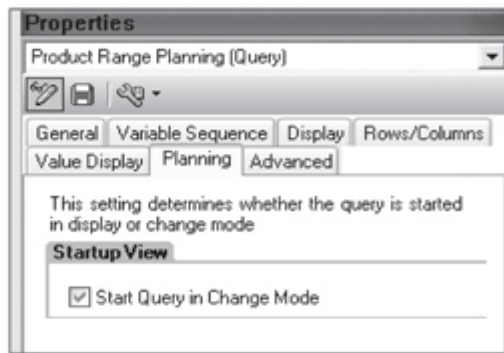

Figure 12.76 Start Query in Change Mode
5. Also, you need to set the query property **STARTUP VIEW** (visible under the **PLANNING** tab in Query Properties) to start the query in change mode. By selecting the checkbox shown in Figure 12.76, you set the query to be opened in input-ready mode when executed.